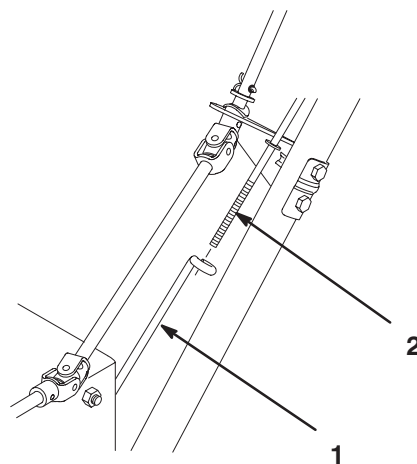

Figure 3
3. Hold the left side of the handle assembly in the installation position and insert the upper traction rod through the loop in the lower traction rod (Fig. 3).